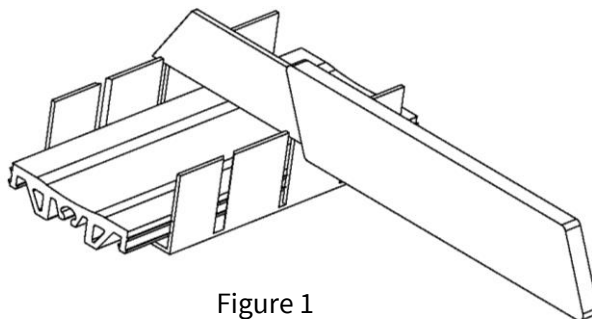

Figure 1
1. Using a continuous bead of structural adhesive (by installer) applied to the rear side of the extrusions, install both extrusions in the expansion joint as shown. **See Figure 1.**
1. Determine the angle needed and cut ends of seal in a miter box with a sharp, non-serrated knife. **See Figure 1**